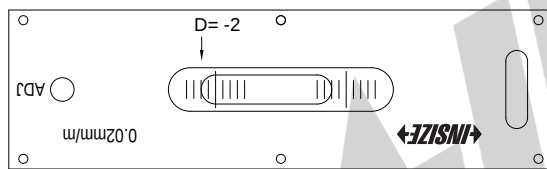

Fig.9
- After the bubble stops moving, read D on the scale (Fig.9).